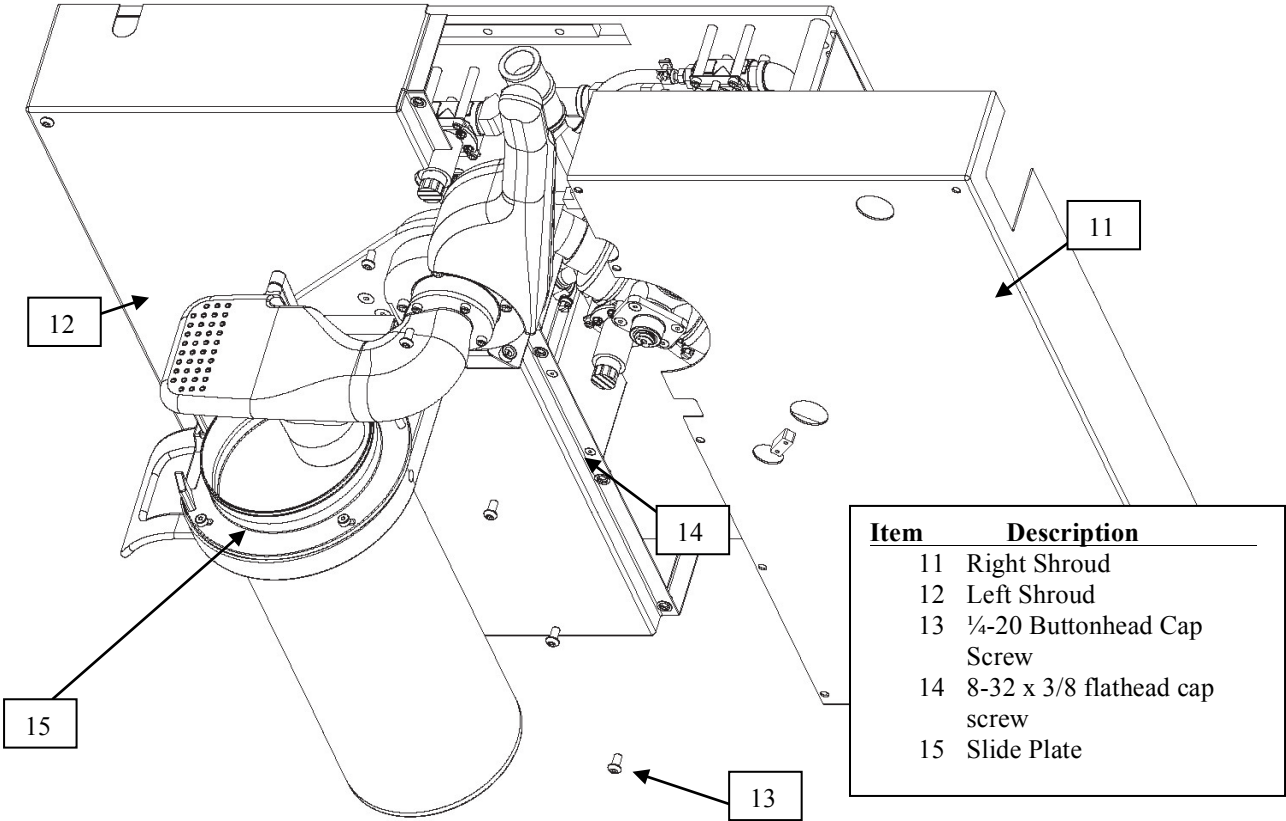

Figure 29: Removal of Right Stainless Steel Shroud
16. Take the right shroud and slide it onto the unit from the right side. It will overlap the edge of the left shroud. Take seven of the 1/4-20 button head socket cap screws from the component bag. Use two to fasten the shroud to the back plate in the upper and lower right corners. Use the remaining five to fasten the two shrouds together where they overlap in the middle of the unit. (See Appendix C, Figure 29 for reference on shroud assembly.)